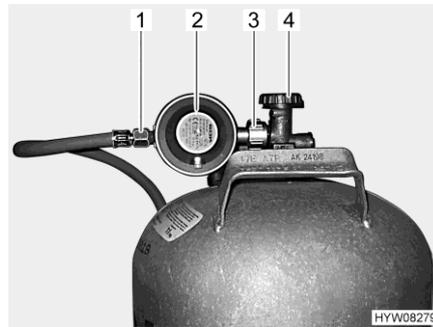

Fig. 129 Gas bottle connection
- Close the regulator tap (Fig. 129,4) on the gas bottle. Pay attention to the direction of the arrow.
- Hold the gas pressure regulator (Fig. 129,2) and open the knurled nut (Fig. 129,3) (normally a left-hand thread).
- Remove the gas pressure regulator and the gas tube (Fig. 129,1) from the gas bottle.
- Position the gas pressure regulator (Fig. 129,2) with gas tube (Fig. 129,1) on the gas bottle and tighten the knurled nut (Fig. 129,3) (normally a left-hand thread). **Do not** tighten too firmly.